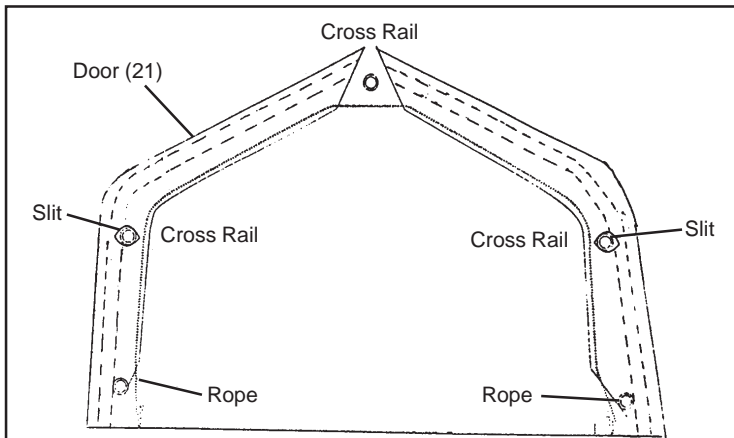

Figure 9
1. At the doorway of the frame, remove the Bolts (14) and Nuts (16) from the three Top Rails (1), top and sides.
2. Place the Tarp Door (21) over the arch of the front End Bow and wrap the material around the arch while bringing the slits to the inside of the frame. Place the Top Rail (1) at the Top Crest (12) into the slit. **See Figure 9.**
3. Once the Top Rails (1) are into the slits on the sides and top, put the Bolts (14) and Nuts (16) back into all the places that they were removed from and tighten them down. **See Figure 9.**
4. Notice the black rope hanging out of the bottom of the Tarp Door (21) on both sides. With two people, wrap the rope under the Corner Feet (4). Both of you are to pull up at the same time to tighten the door. When Tarp Door is snug, tie off the rope to the Corner Feet (4).
5. Attach the side of the Tarp Door (21) to the frame by using the 6 pcs. Ball Tie Downs (24).
7. At the back doorway of the frame, remove the Bolts (14) and Nuts (16) from the three End Top Rails (11), top and sides.
8. Place the Tarp Back (22) over the arch of the back End Bow and wrap the material around the arch while bringing the slits to the inside of the frame. Place the End Top Rail (11) at the Top Crest (12) into the slit. **See Figure 9 on the previous page.**
9. Once the End Top Rails (11) are into the slits on the sides and top, put the Bolts (14) and Nuts (16) back into all the places that they were removed and tighten them down. **See Figure 9.**
10. There are extra slits in the Tarp Back (22) for the Support Braces (10a+b). Repeat the steps as before for the sides with the Support Braces replacing the exact hardware. Tighten. **See Figure 9.**
11. Notice the black rope hanging out of the bottom of the Tarp Back (22) on both sides. With two people, wrap the rope under the Corner Feet (4). Both of you are to pull up at the same time to tighten the door. When Tarp Back is snug, tie of the rope to the Corner Feet (4).
12. Attach the side of the Tarp Back (22) to the frame by using the 6 pcs. Ball Tie Downs (24).